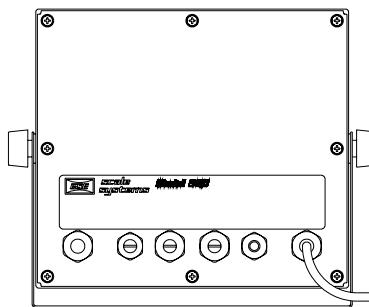

Figure 2-4: 560 and 562 Rear Panel
2. Using a #2 cross-tip (Phillips) screwdriver or a 8mm socket, remove the eight 8-mm hex head screws from the rear panel (see Figure 2-4).